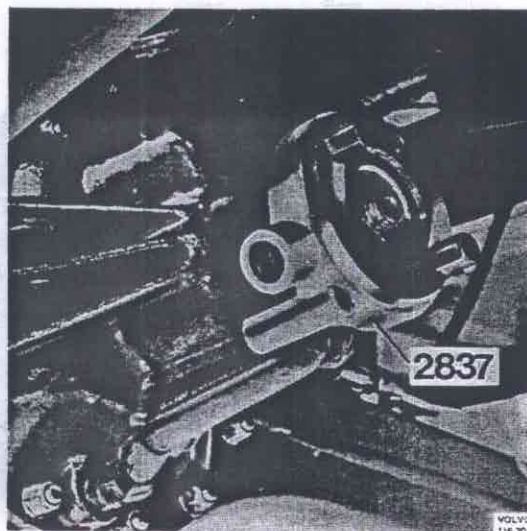

Fig. 46-14. Fitting a counterhold
2. Fix counterhold 2837 on the flange, Fig. 46-14. Unscrew the nut.